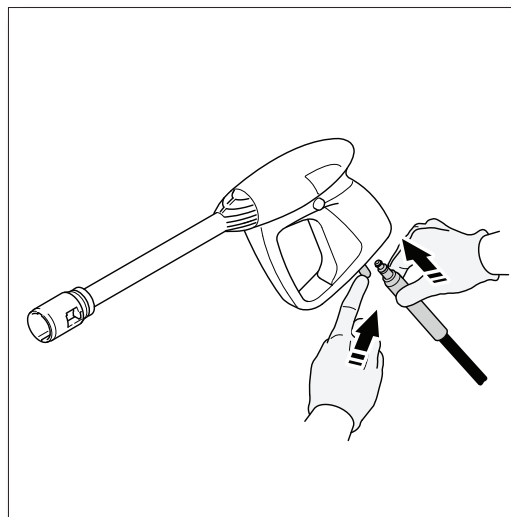

Fig. 4
- Attach 20’ soft PVC High pressure hose to Spray gun by pulling back on lock, and inserting hose (**Fig. 4**).
- To release the hose from the spray gun, press the button on the underside of the gun toward the trigger guard. The hose will slide out from the connection (**Fig. 4**).